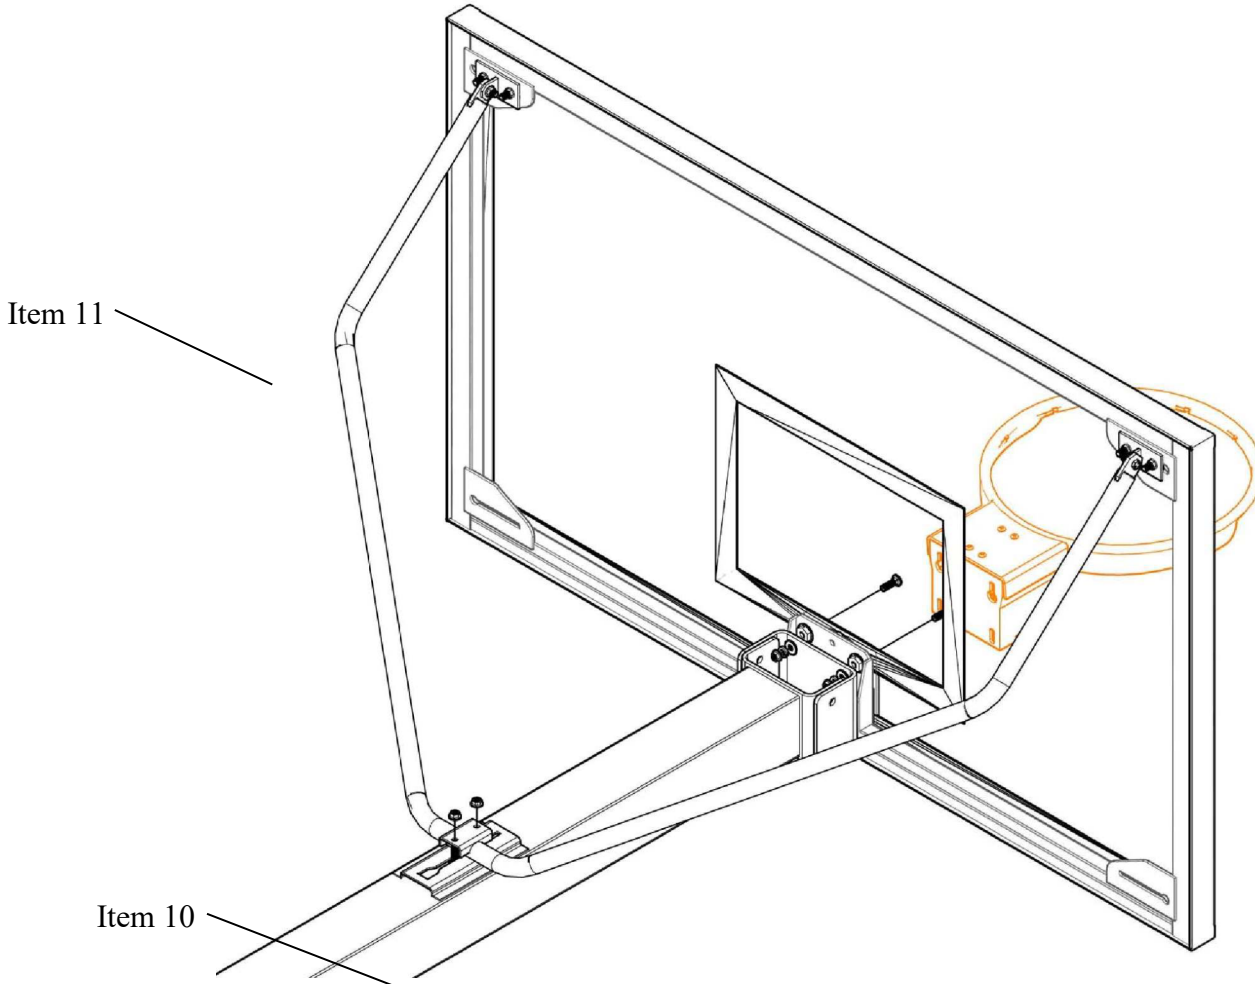

Figure 4
7. Attach the Backboard brace yoke (item 11) to the brackets installed in step 6 using 3/8-16 x 1" hex head bolts with whizlock nuts.
8. Position the backboard brace clamp (item 10) over the yoke and yoke attachment plate on the boom as shown in figure 4. Secure the clamp with two 3/8-16 x 2-1/4" carriage bolts and whizlock nuts.